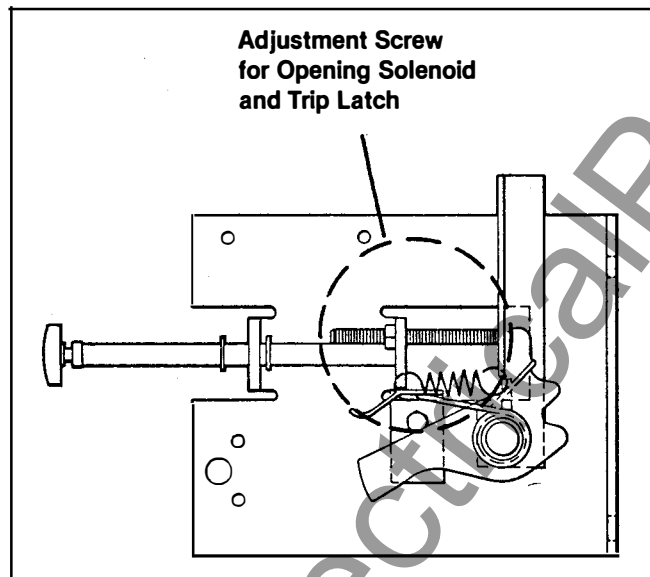

Figure 18. Location of Trip Latch Adjustment Screw
As a special feature the breaker can be fitted with a type Q-10 auxiliary switch with (10) stages. Each stage can be adjusted to be an 52a contact or 52b contact. Refer to figure 18 for features of this switch.
(See Figure 18)
Apply steady pressure to the armature of the opening solenoid 54.1, (Figure 6). The trip latch should release the opening spring before the limit position of the armature is reached. The armature should have a free travel of .39 to .6 inch (10 to 15mm) before picking up the load of the trip latch. The armature stroke can be reduced by screwing in the adjustment screw and increased by screwing in the same adjustment screw. Secure the final adjustment by means of the lock nut. See Figure 18 for location of adjustment screw.